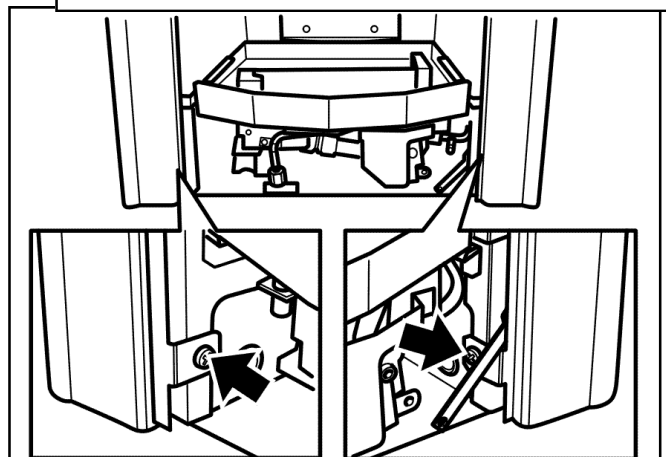

Figure 21. Fascia bottom location.
2. Swing the bottom control linking bar towards the centre of the fire to clear the right side of the fascia. Slide the fascia sideways, if necessary, to align the bottom fixing holes with those in the convection box (This will not be possible on the Dream). Fix the bottom of the fascia unit to the convection box with two screws (See figure 21).